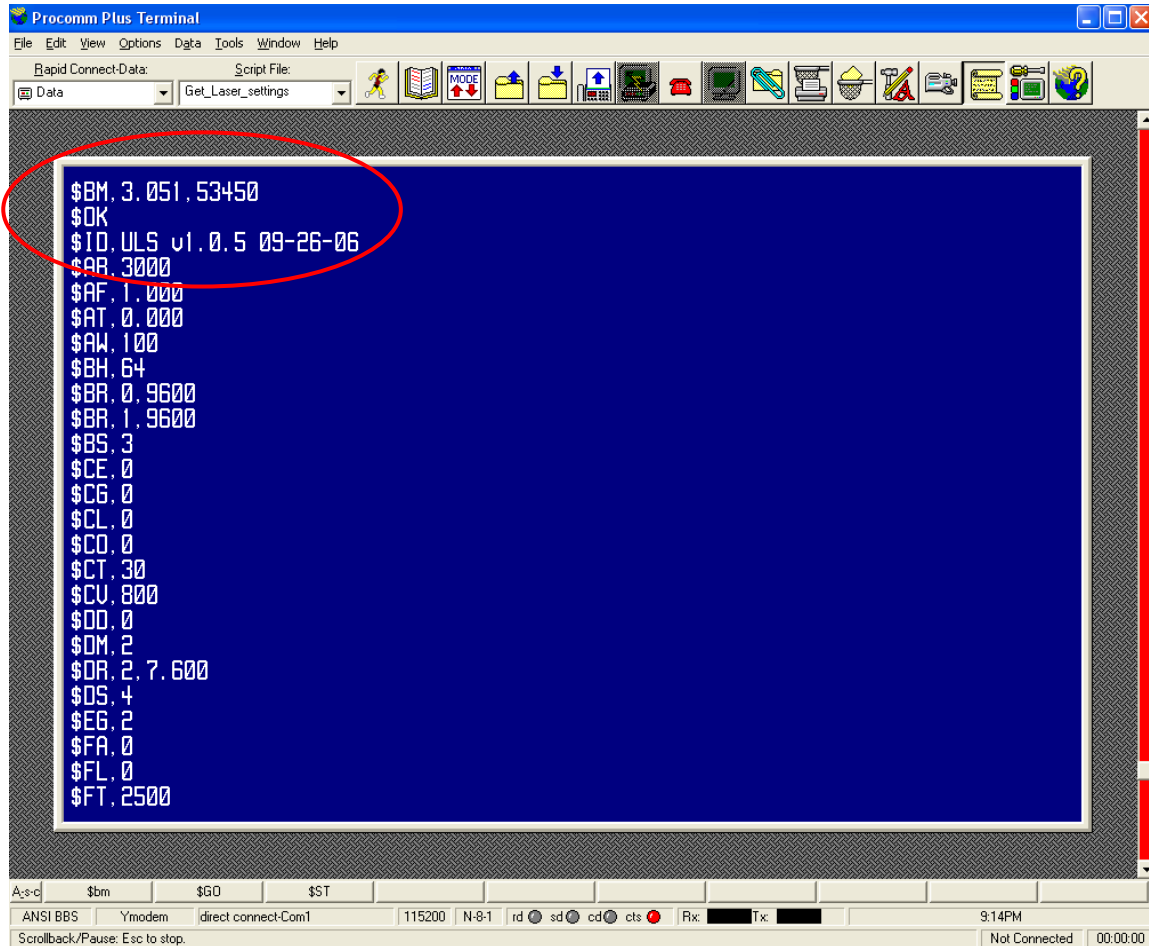
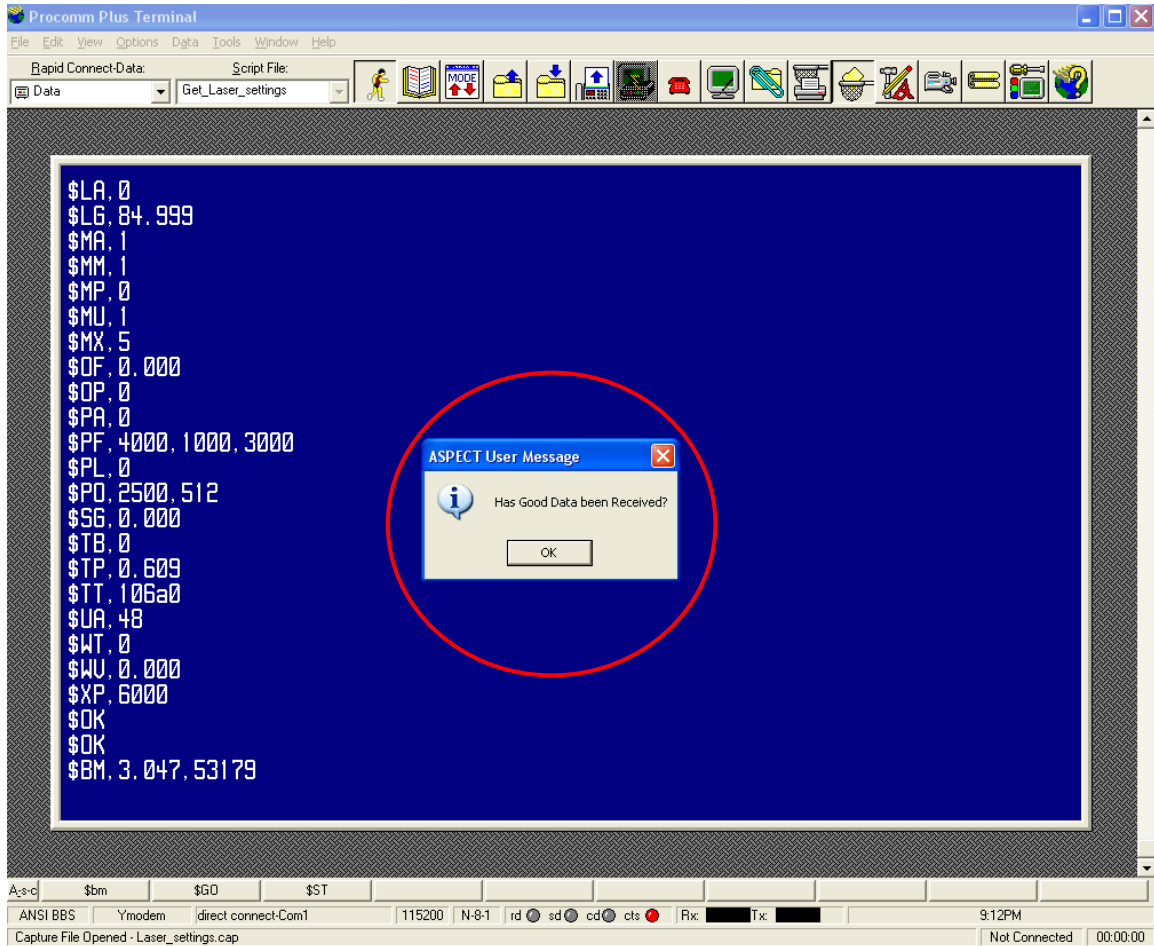

Figure 24
Figure 25
9. At this point the script will send a number of commands to the sensor to get its setup values. The first is a data request, the second switches the sensor into the command mode, and the third shows the software version of the sensor (fig. 24). See table 5 for a list of the commands used by the script.
- At the end of the script, the sensor goes back into measurement mode. You will then see a data request (\$BM) as shown on the last line in fig 25. Check the values and make sure they are close to the value at the beginning of the download as in Fig 24. If you receive an error message contact the CIL/SIL. Click **OK** in the User Message block to continue.